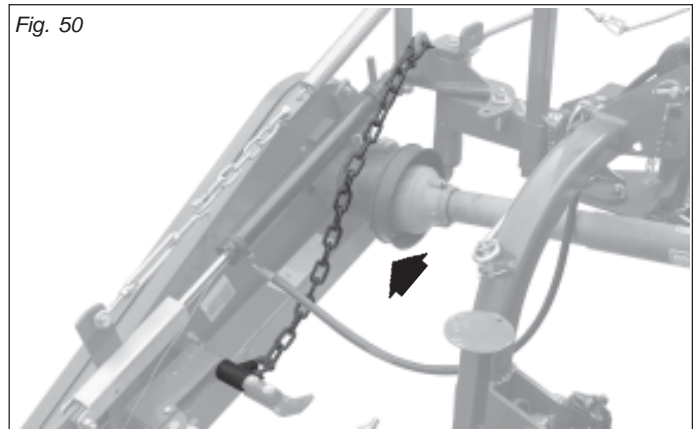

Fig. 50
**CAUTION:** For mowing on surfaces that are not parallel to the tractor plane, we recommend removing the moving guide from the outer mowing bar support. To mount pulling of Figure 50 in order to improve the excursion and use of the sickle bar.